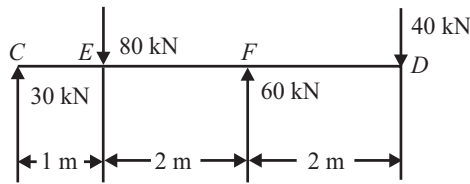

Fig. 7.54
Q. 43: A rigid bar CD is subjected to a system of parallel forces as shown in Fig. 7.54. Reduce the given system of force to an equivalent force couple system at F. (Dec-03-04)